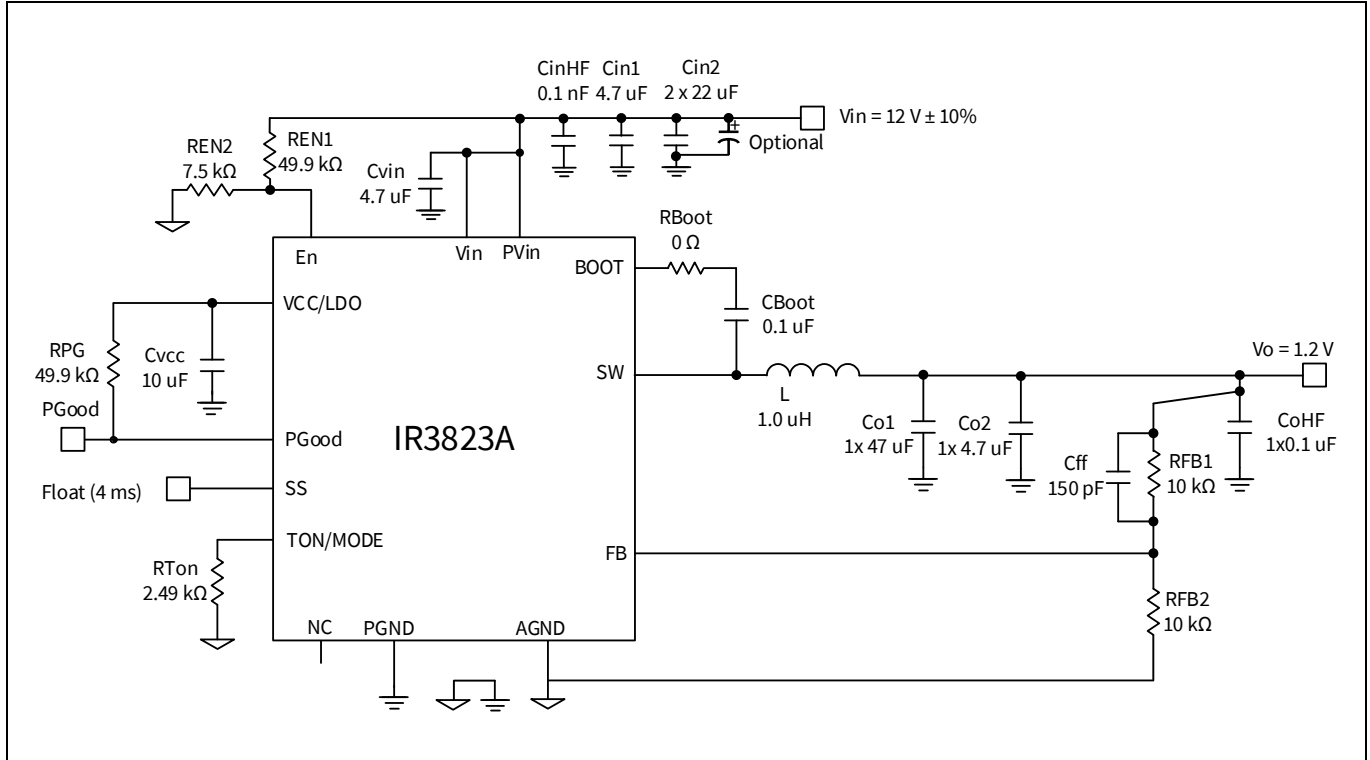

Figure 13 Application diagram of IR3823A. Pvin = 12 V, Vo = 1.2 V, Io = 3 A, fsw = 1000 kHz.
In this section, an example is used to demonstrate how to design a buck regulator with the IR3823A. The application circuit is shown in **Figure 13**. The design specifications are given below:
- To implement the V_o sensing, the following design guidelines should be followed, as illustrated in Figure 13.